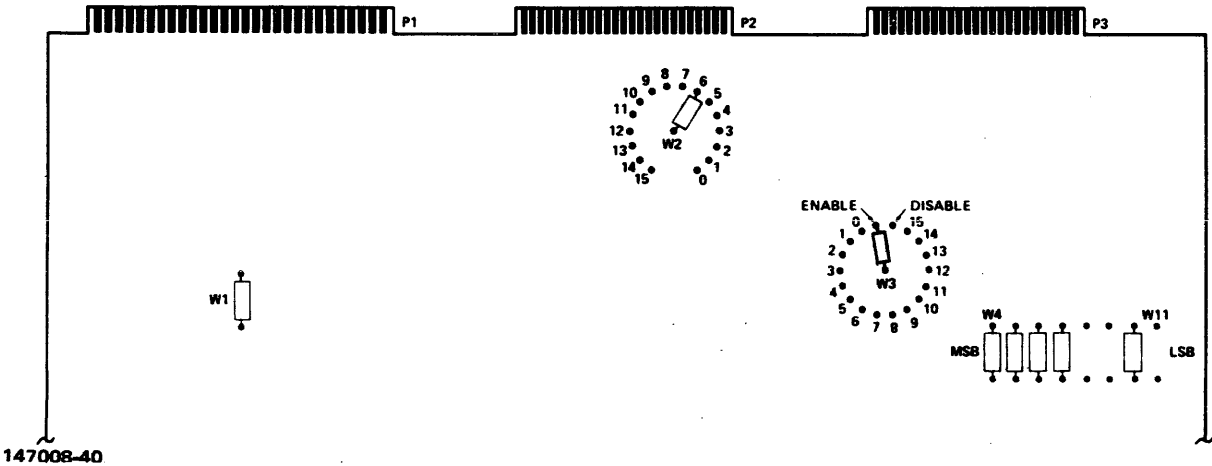

Figure E-6. Card Reader Interface PCA
**CARD READER INTERFACE PCA (FIGURE E-6)**